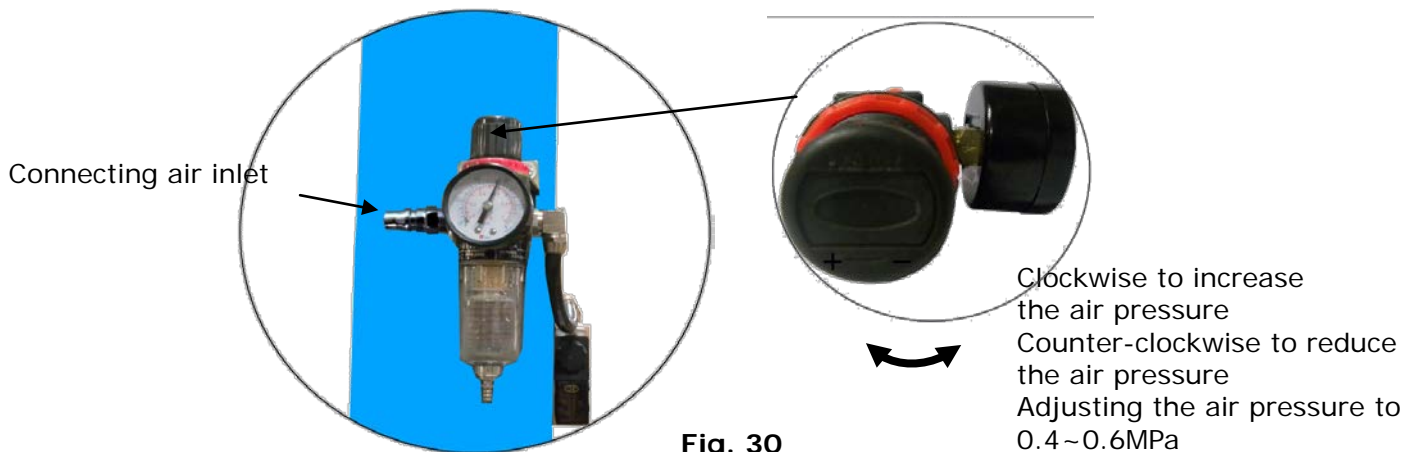

Fig. 30
5. Connecting air inlet (Air supply pressure $5\text{kg}/\text{cm}^2 - 8\text{kg}/\text{cm}^2$), adjusting the air pressure of Oil-water separator to $0.4 - 0.6\text{MPa}$ (See Fig. 30).